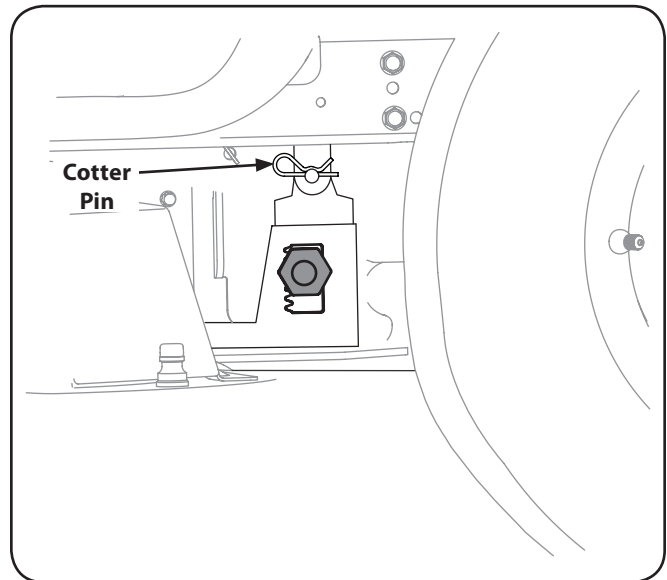

Figure 7-6
6. Pull the cotter pins out of the four deck lift adjustment brackets. See Figure 7-6.